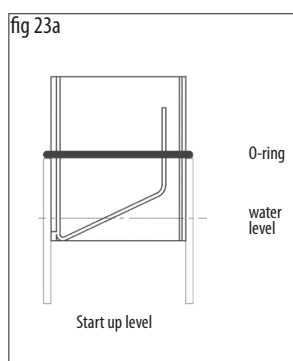

fig 23b
- For aquariums with heavy stocking or for dark foam/skimate, lift the collection cup and lower the o-ring gradually as shown in figure 23b
Attention: It is advisable to adjust the collection cup by small movements, one at a time (2/4mm – 1/8/1/4 in). For every adjustment you need a few hours before verifying if the foam suits the needs. Repeat this operation until you reach the correct setting without going beyond the min and max level shown in fig. 23b and fig.23c
- Excess foam production: adjust by lifting the collection cup and lowering the o-ring gradually as shown in fig.23b. Check airflow and if necessary, reduce.